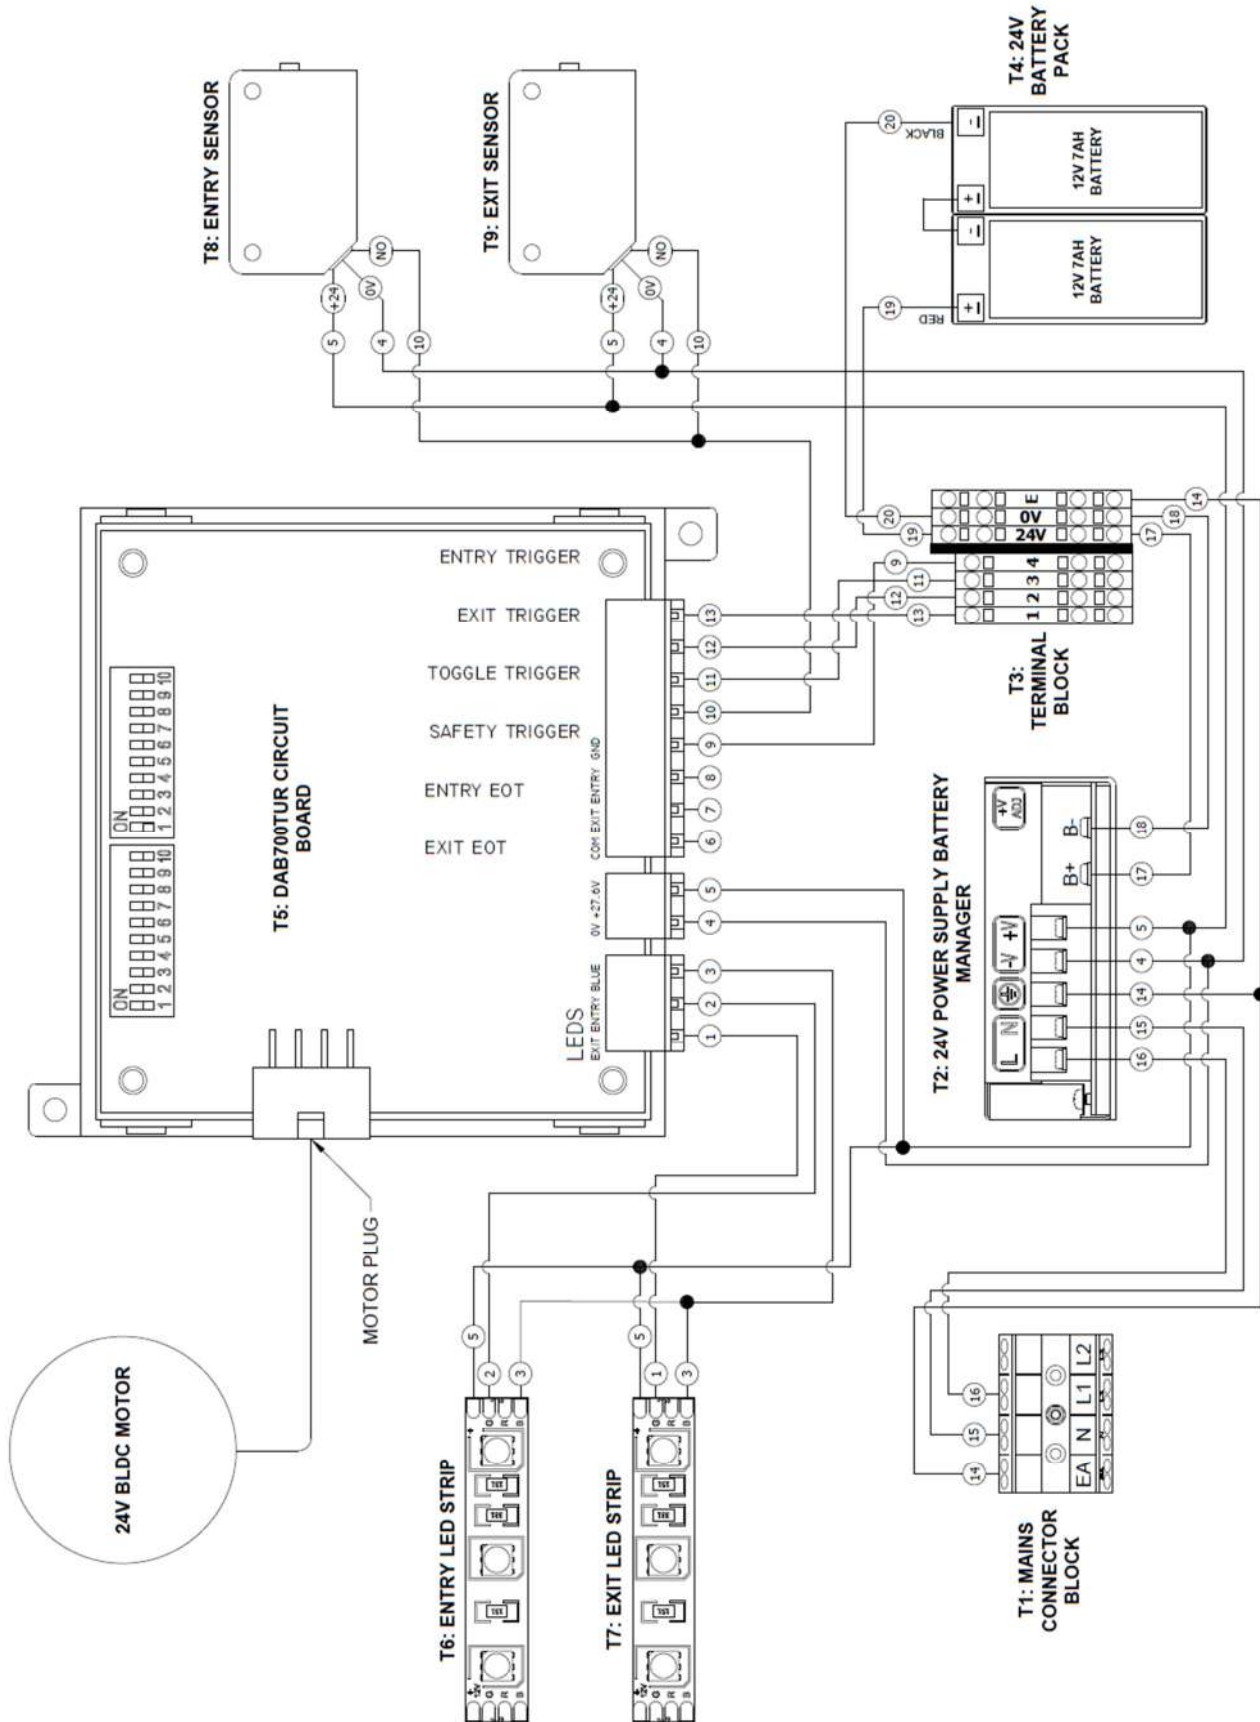

Figure 6: DAB700TUR Controller & Connections
- 5.3. Connect 220v AC live power as shown in the diagram *Figure 6: DAB700TUR Controller & Connections*.